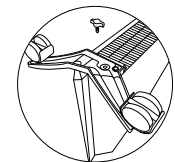

Figure. 7
- Secure the chassis using the supplied mount (Fig. 7).